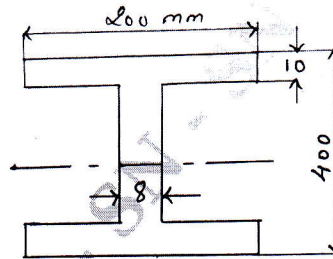

Fig.Q6(b)
b. The cross-section of a beam is shown in Fig.Q6(b). If permissible stress is  $150 \text{ N/mm}^2$  find its moment of resistance.